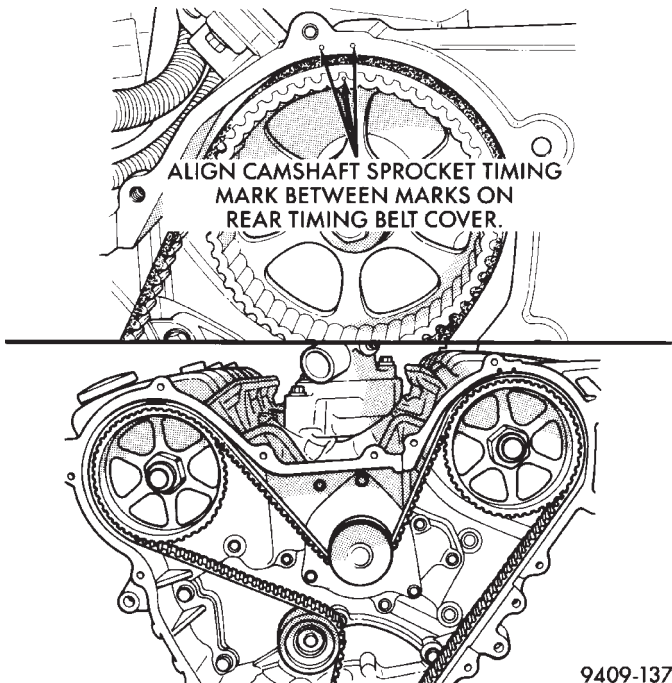

Fig. 48 Camshaft Sprocket Timing Marks
(5) Install camshaft sprockets onto the camshafts. Install **NEW** sprocket attaching bolts into place. The 255 mm (10 in.) bolt is to be installed in the left camshaft and the 213 mm (8 3/8 in.) bolt is to be installed into the right camshaft. **Do not tighten the bolts.** Camshaft sprocket mark should be positioned between the marks on the cover (Fig. 48) at both sprocket.